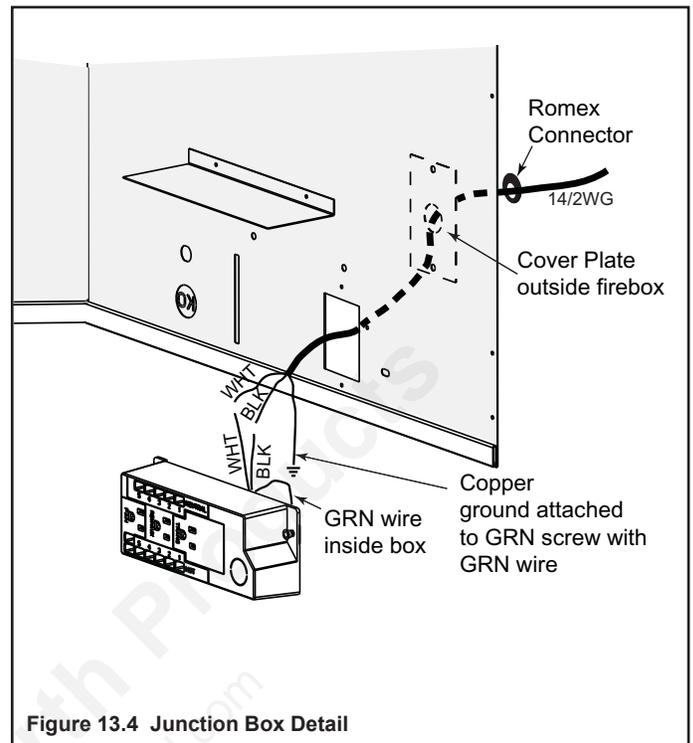

Figure 13.4 Junction Box Detail
- Refer to Figure 13.4, Standing Pilot Ignition Wiring Diagram.
- Remove the cover plate located on the outer shell - right side (see Figure 13.4).
- Remove the screw attaching the junction box/receptacle to the outer shell, rotate the junction box inward to disengage it from the outer shell (see Figure 13.4).
- Pull the electrical wires from outside the appliance through this opening into the valve compartment. See Figure 13.4.